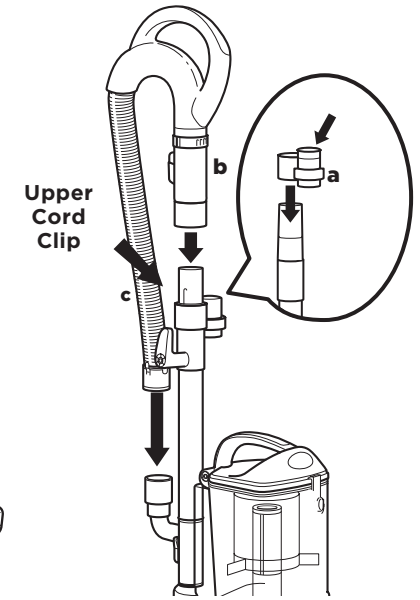

Fig. 10
- 4 Slide the accessory holder **(a)** (positioned opposite the upper cord clip), over the wand. Align the tab with the groove and push down. **(Fig. 10)**
- 5 Push the handle **(b)** onto the top of the wand until it clicks into place. **(Fig. 10)**
- 6 Insert the end of the stretch hose **(c)** into the connector on the back of the canister. **(Fig. 10)**